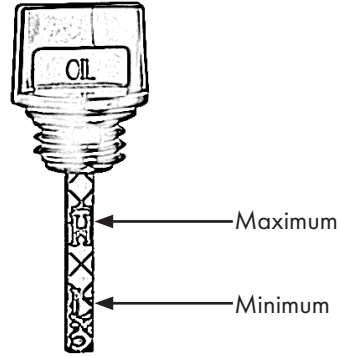

Figure 16
- Read the oil level, see also Fig. 16.
There must be an oil film between the upper and lower markings. If there is no oil film, the oil level is too low, Fig. 16. Top up with more oil. H-High stands for maximum. L-Low stands for minimum.